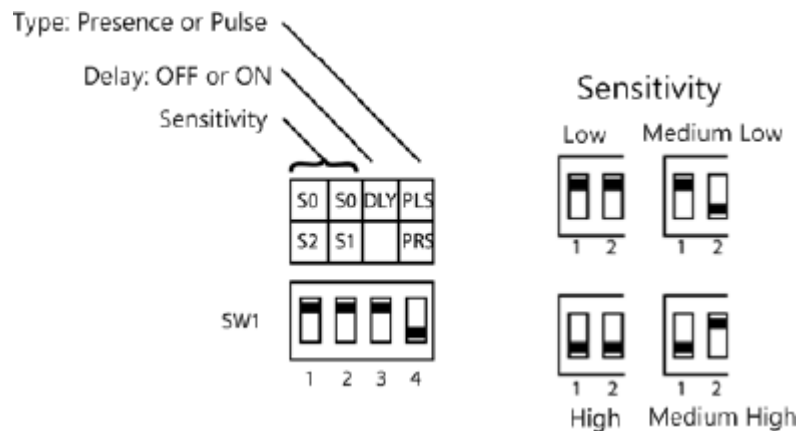

Figure 20.
- Configure the dip switches according to the table on the circuit board and your needs (see Figure 20).